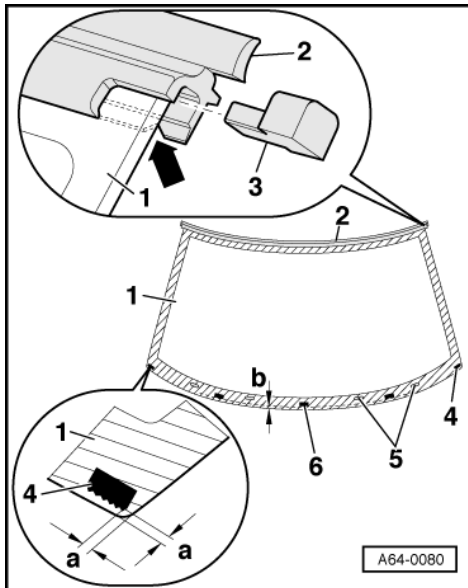

Fig.1 -> Bonding on lower spacers
- ♦ Note assembly mark on masking strip => Fig. 1 .
- ♦ Note different heights of spacers =>Fig. 1 .